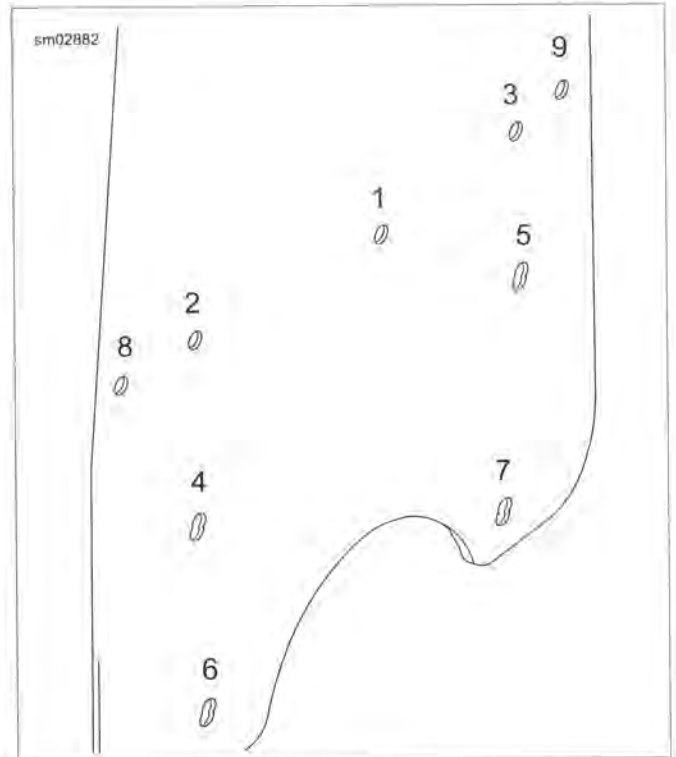

Figure 2-155. Windshield Torque Sequence
11. See Figure 2-155. Following the sequence shown, tighten all screws to 20-25 **in-lbs** (2.3-2.8 Nm).